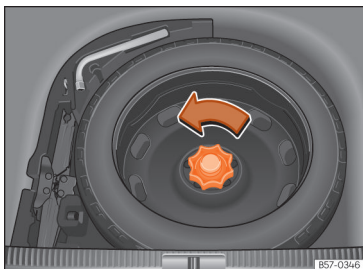

Fig. 236 In the luggage compartment: raised load floor.
- Turn the thumb wheel anticlockwise >>> Fig. 236.